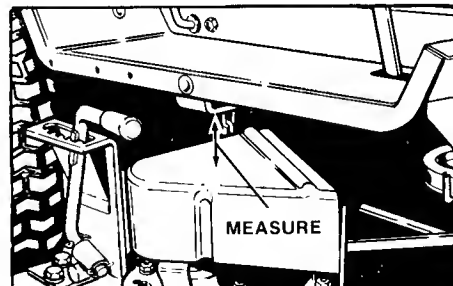

Figure 47. Measurement - 42" Mower
2. Measure the distance between top of pulley cover and bottom of upstop bracket (figure 47). If small lift lever (F, figure 8) is used, the measurement should be 2". If large lift lever (B, figure 8) is used, the measurement should be 1-13/16".